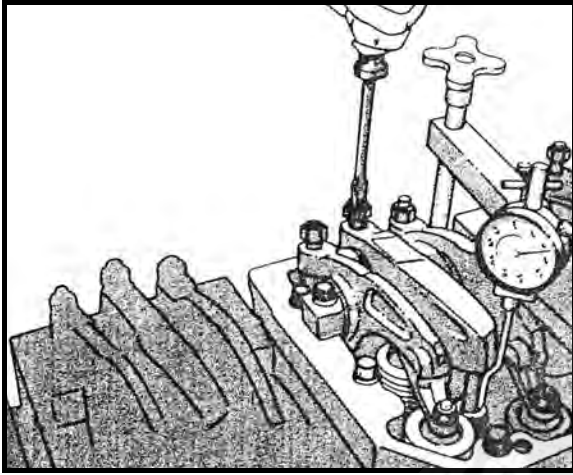

Fig. 2-18 Adjust injector plunger travel
6. Turn the adjusting screw back out until the indicator shows the proper injector plunger travel values given in Table 2-4 (Fig.2-18).